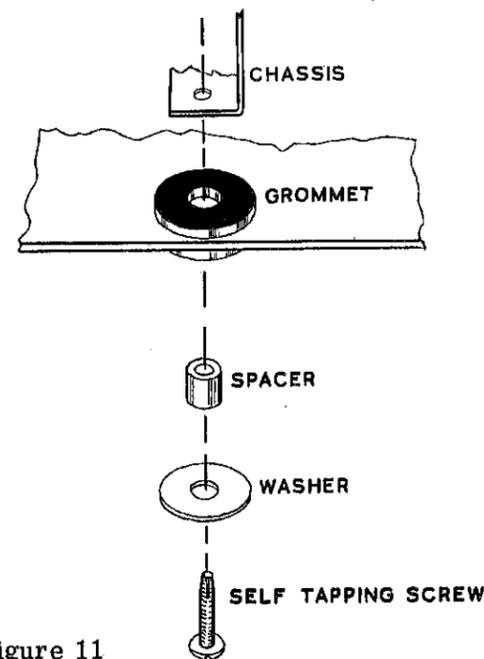

Figure 11
- (✓) Insert a 3/16" metal spacer in the center of each large grommet as shown in Figure 11.